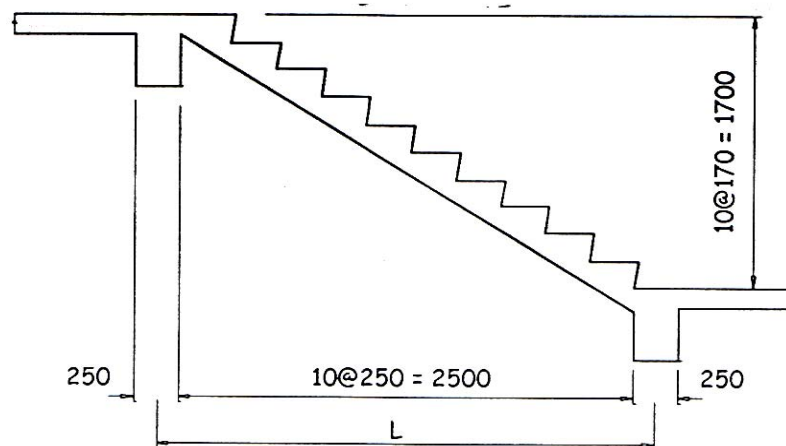

Figure 3.1
3. a) A reinforced concrete staircase is supported by beams at both end as shown in Figure 3.1 below. The platforms at both ends are connected in monolithic with the staircase. Design the staircase using concrete with grade 30 and steel reinforcement with grade 460. The imposed load and finishes are 4.0 kN/m^2 and 0.5 kN/m^2 respectively. Concrete cover is 25 mm.